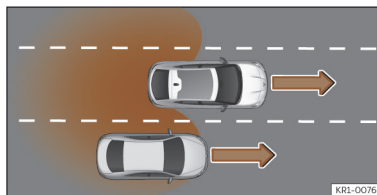

Fig. 151 Overtaking in the central lane and then joining the right lane.
- When overtaking another vehicle >>> **Fig. 151** with a speed difference of approx. 10 km/h (6 mph). If the vehicle is passing at a considerably higher speed, no indication will be displayed.